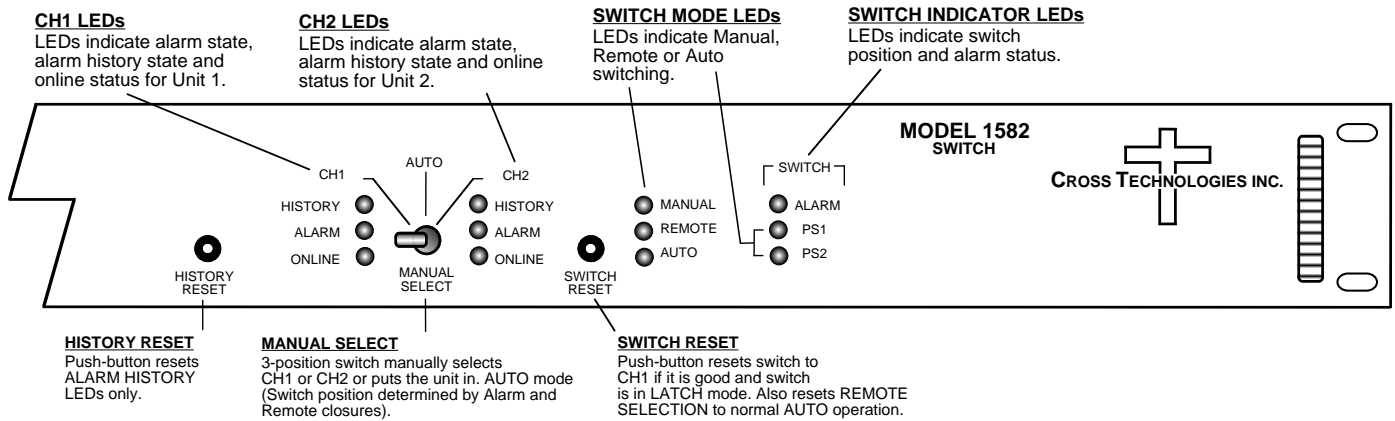

FIGURE 2.3 1582-125L Switch, Front Panel Controls and Indicators
Figure 2.3 shows the front panel controls and indicators.
1. Set the on board controls as desired (Tables 2.0, 2.1, Figure 2.3).